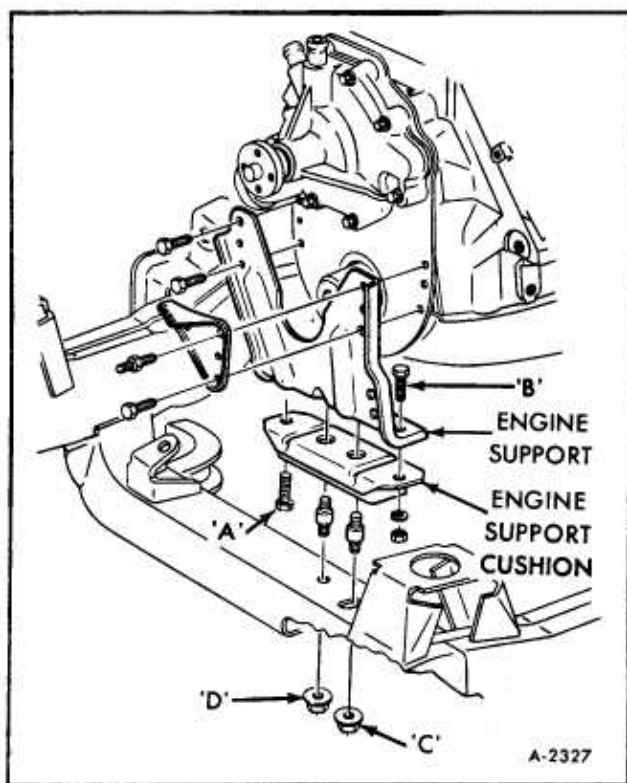

Figure 6-Front Engine Mounting
3. Remove bolts "A" and "B". Remove nuts "C" and "D" as shown in Figure 6.